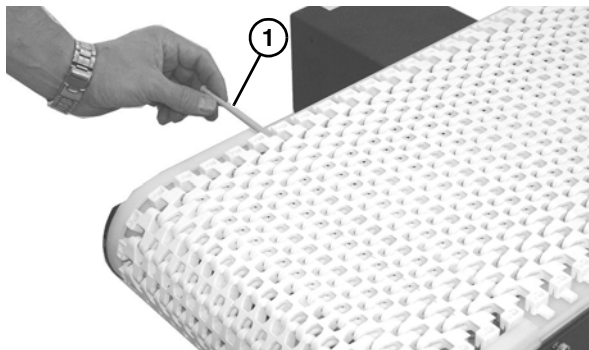

Figure 22
1. Use a punch and hammer to push the belt rod (Figure 22, item 1) out by striking the rod end opposite the retaining head.